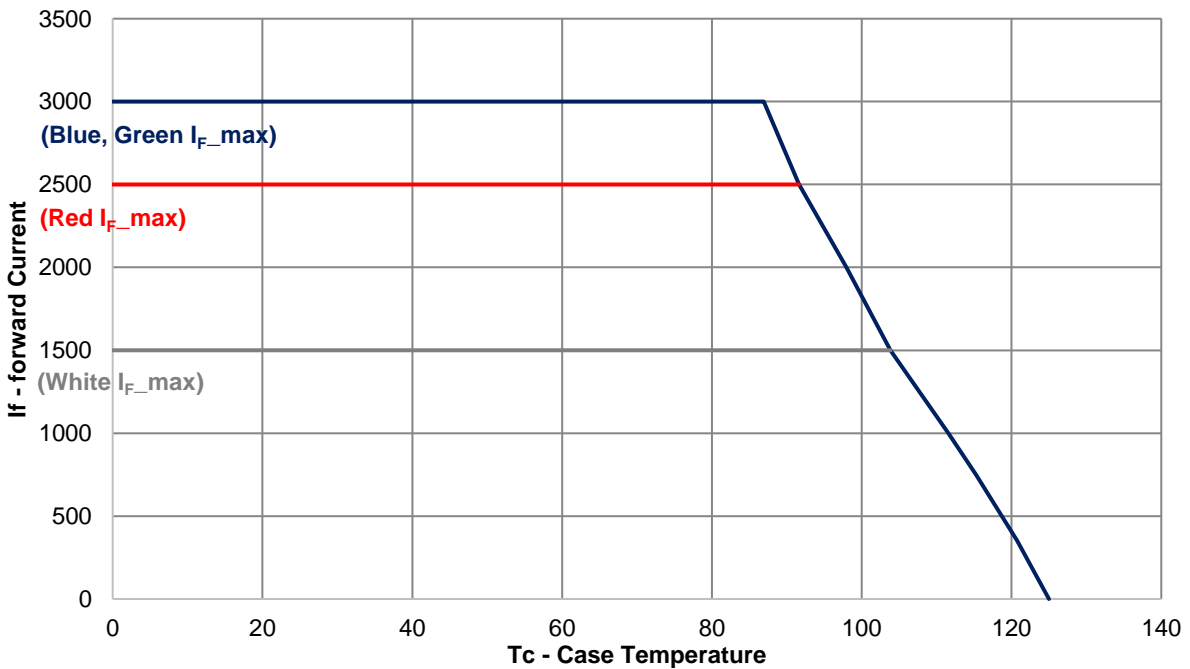

Figure 11: Maximum forward current vs. ambient temperature based on TJ(MAX) = 125°C
- Maximum DC forward current is determined by thermal resistance and case temperature. Follow Figure 11 for current derating.
Notes for Figure 11: